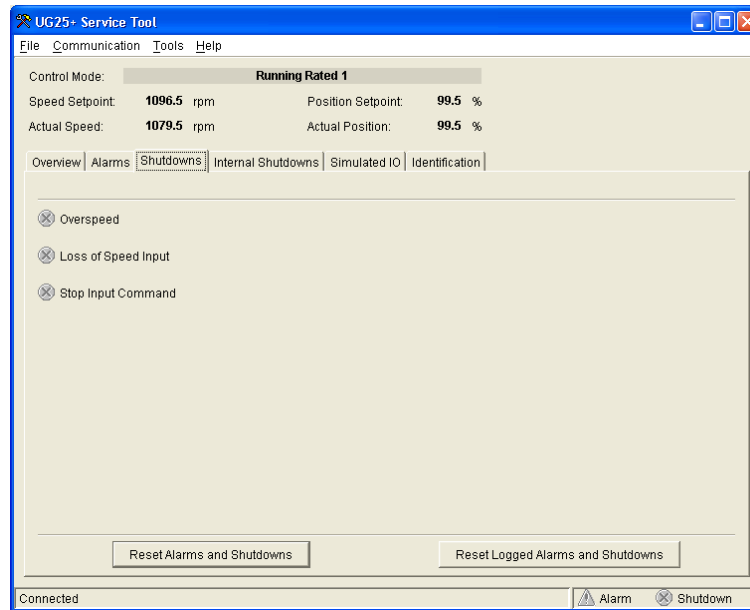

Figure 5-5. Service Tool – Shutdowns Tab
- Shutdowns (see Figure 5-5)
To monitor the shutdown conditions, go to the Shutdowns and the Internal Shutdowns pages (figures 5-5 and 5-6) on the main window. The values displayed on the Shutdowns screen dynamically change with the fault configuration. Refer to Chapter 4 for a complete listing and details of all the faults.